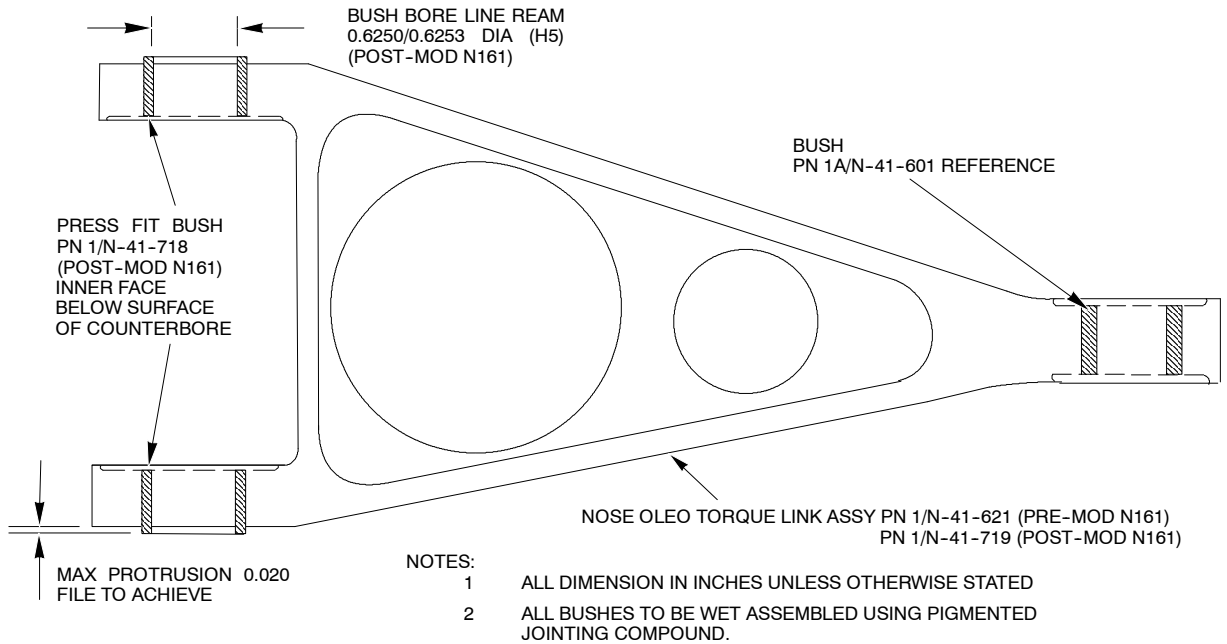

Figure 1
A. Part 1 - Modification of Torque Links and Introduction of Modified Pins (Ref IPC Chap 32-20-03 Fig 1)
(1) Remove nose undercarriage torque links Assy PN 1/N-41-621 from nose oleo.
- (3) Remove bushes PN 1/N-41-681 (4 off) from links assy PN 1/N-41-621 and replace with new bushes PN 1/N-41-718. Push fit bushes ensuring that inner face of bush remains below the counter bored surface. Maximum bush protrusion on outside face of links to be 0.020 in. Bush may be filed to achieve this dimension. Line ream bushes to 0.6250/0.6253 in dia and clean out swarf (Ref Fig 1).